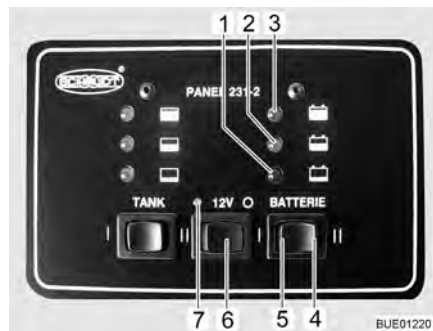

Fig. 96 Panel
The 12 V main switch (Fig. 96,6) switches the 12 V power supply of the living area on and off.
- Push "12 V" rocker switch (Fig. 96,6) to the left: The 12 V living area power supply is switched on. The 12 V indicator lamp (Fig. 96,7) lights up in green.
- Push "12 V" rocker switch (Fig. 96,6) to the right "O": The 12 V living area power supply is switched off. The 12 V indicator lamp (Fig. 96,7) goes off.
- Press the left "BATTERY" rocker switch "I" (Fig. 96,5): This displays the charging condition of the living area battery.
The right half of the "BATTERIE" "II" rocker switch (Fig. 96,4) has no function.
The red indicator lamp (Fig. 96,1) with the symbol "" is illuminated: The living area battery is discharged. Completely charge living area battery immediately.
The yellow indicator lamp (Fig. 96,2) with the symbol "" is illuminated: The living area battery is half discharged. The energy reserves of the living area battery will last for only a limited time. Recharge the living area battery soon.
The green indicator lamp (Fig. 96,3) with the symbol "" is illuminated: The living area battery is fully charged.